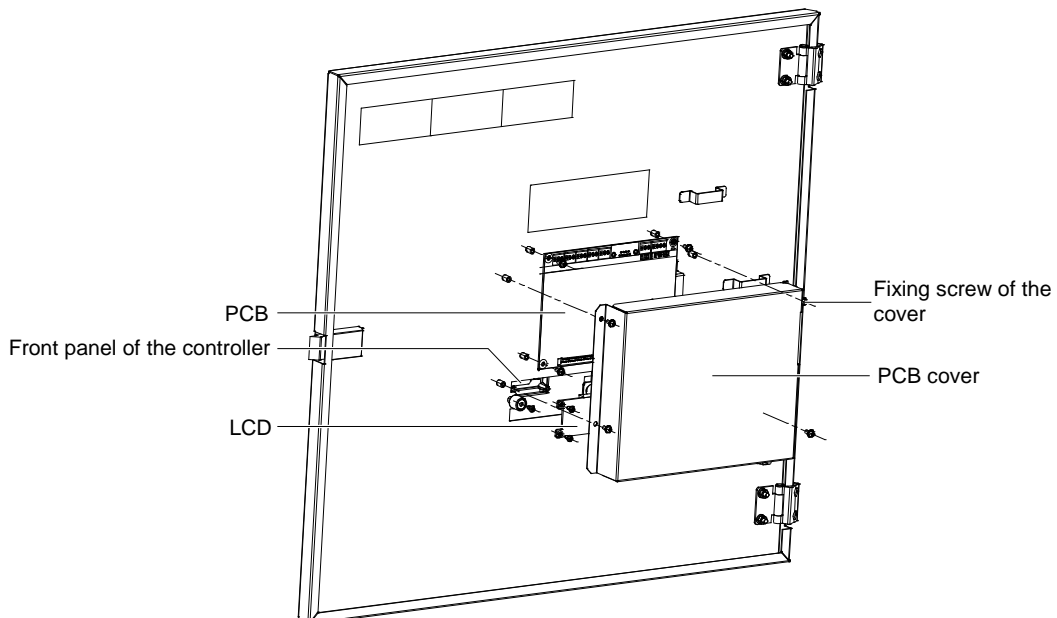

Figure 6-3 Removing cover
1. Loosen the three fixing screws on the PCB cover and remove the cover, as shown in Figure 6-3.